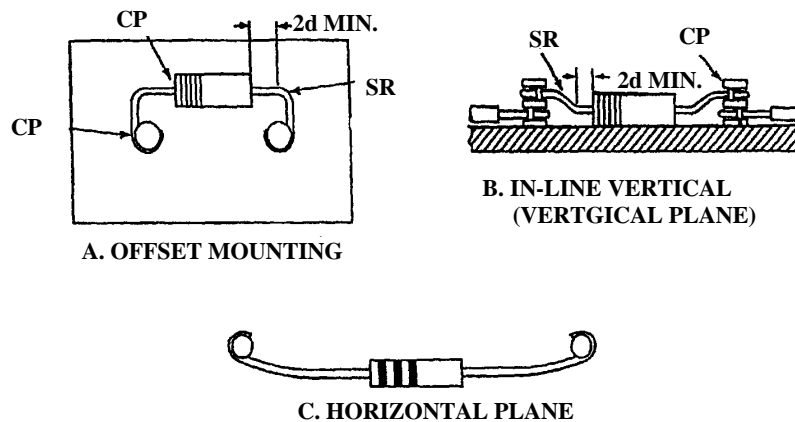

Figure 8-5. Stress Relief Examples
3. **Stress Relief.** Where parts are mounted between bifurcated terminals, without lead wrap, it is not mandatory that the part leads have stress relief bends. Where parts are mounted between other terminal types, it is mandatory to put a stress relief bend in at least one lead (Figure 8-5).